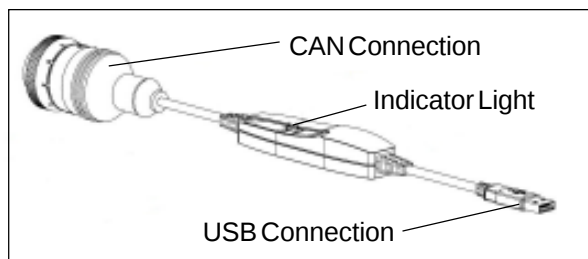

Figure 1 — CAN/USB Interface Assembly
1. The CAN/USB interface assembly is a cable with USB and CAN connections (refer to Figure 1). Connect the USB end of the interface assembly to the computer. Then connect to the turntable ECM by connecting the CAN connector to the cable at the rear of the turntable. The turntable cable will be capped. Make sure that both the turntable and platform ECMs are both active before continuing the update by checking to see that the upper display is on. Push the Start/Stop at the platform to activate if it is not.